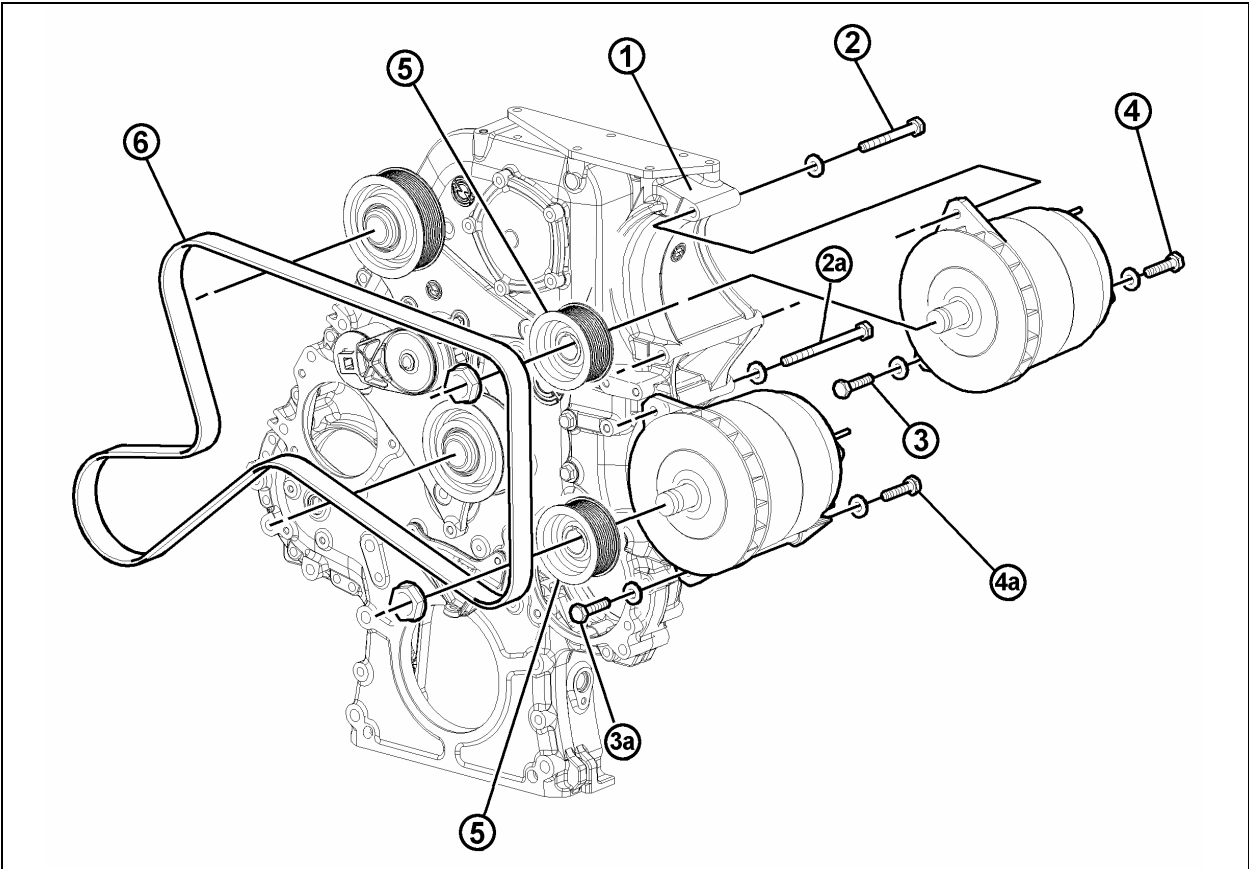

FIGURE 19: TWIN BOSCH ALTERNATORS INSTALLATION ON DDC SERIES 60 ENGINE 01077
1. Install alternator mounting bracket (1, figure 19) to the gear case. Use the four flanged phosphor alloy bolts on the pulley end of the bracket and the flanged nuts at the transmission end of the bracket;
2. Bolt the upper alternator to the bracket using the 4 inch bolt at the top (2, fig 19) and two inch bolts at the lower mounting bosses (3 and 4, figure 19). Bolt the other alternator using the 6 inch bolt at the top (2a, fig 19) and two inch bolts at the lower mounting bosses (3a and 4a, figure 19);
3. On the drive shafts of both alternators, install key, pulley, spring washer and nut (5, figure 19);
6. Install alternators belt (6, figure 19).
1. Insert a ¾ inch socket drive into the automatic belt tensioner opening (fig. 19).